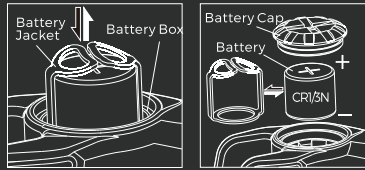

Fig 1
3. Install or replace the battery according to Figure 1.
4. Unscrew the battery cap with the included spanner or a coin in a CCW direction. Remove the old battery using the handles on the battery jacket, then insert a new battery into the battery jacket and reinsert into the battery compartment. Note that the positive (+) battery terminal faces outward. (Figure 1).